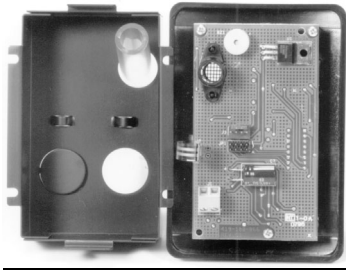

Figure 3:
Installation of the AirGard 200 monitor generally requires the fume hood to have a cut out section as shown in Figure 3.
Step 3: Snap in the snap bushing supplied onto the hole used for the power connection in the back enclosure and mount in the cut out on the fascia with 4 screws supplied. See Figure 3.